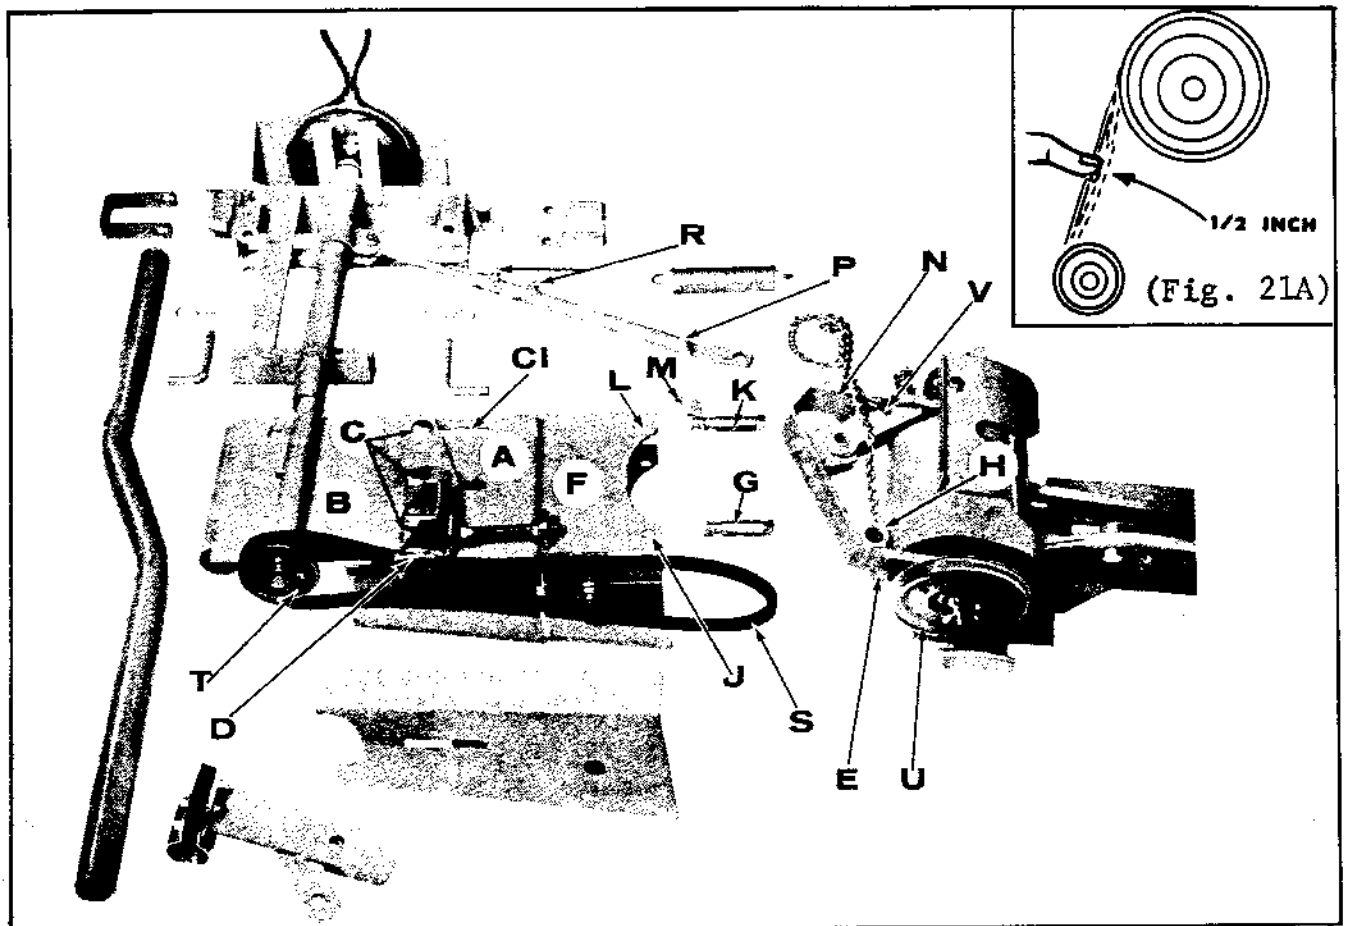

Fig. 21
Place the carriage plate assembly (A) with the (3) slotted holes beneath the main frame support (B) as shown in Figure 21. Attach carriage plate (A) and belt guard bracket (D) onto plate (B) with (3) 1/2" x 1-1/2" carriage bolts. Secure bolts with (3) 1/2" hex nuts and lock washers as furnished. Leave bolts slightly loose at this point.